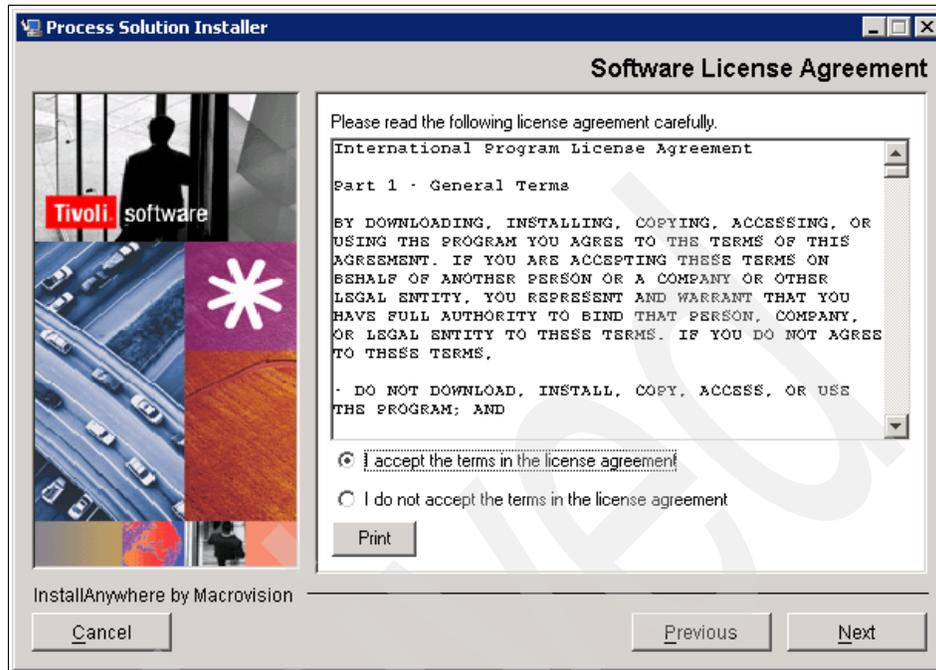

Figure 8-5 License agreement
10. A dialog box appears to obtain the license. When the license is obtained successfully, a dialog box as shown in Figure 8-5 on page 224 appears.